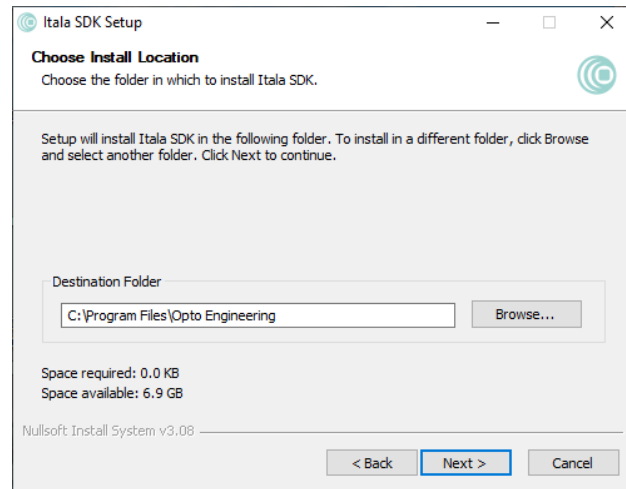

Figure 24: Itala SDK destination folder window.
4. Choose the destination folder (Fig.24).